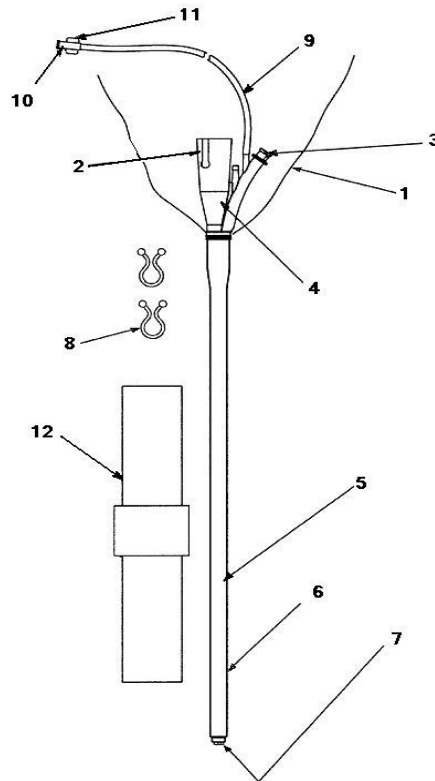

Figure 3-3: CV-2.1 Slide-On[®] EndoSheath[®] Technology
- The **CV-2.1 Slide-On® EndoSheath® Technology** (Figure 3-3 on page 16). This Sheath contains a 2.1mm (6.3Fr) channel through which irrigation fluids can be instilled into the patient, or accessory instruments can be inserted.
The **CV-2.1 Slide-On[®] EndoSheath[®] Technology** shown in Figure 3-3 is a sterile, disposable barrier for the Cogentix Medical **CST-5000/5000i** Flexible Video Cystoscope/Hysteroscope. The Sheath isolates the endoscope from contact with patient fluid and material during the procedure.